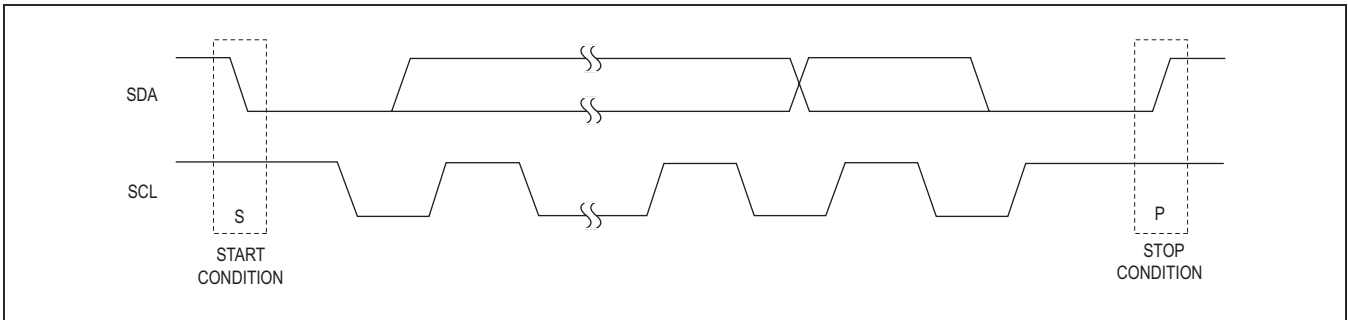

Figure 4. START and STOP Conditions
The IC operates as a slave device that sends and receives data through an I2C-compatible 2-wire interface. The interface uses a serial-data line (SDA) and a serial-clock line (SCL) to achieve bidirectional communication between master(s) and slave(s). A master (typically a microcontroller) initiates all data transfers to and from the IC and generates the SCL clock that synchronizes the data transfer. The SDA line operates as both an input and an open-drain output. A pullup resistor is required on SDA. The SCL line operates only as an input. A pullup resistor is required on SCL if there are multiple masters on the 2-wire interface, or if the master in a single-master system has an open-drain SCL output. Each transmission consists of a START (S) condition (Figure 4) sent by a master, followed by the MAX14592 7-bit slave address plus  $R/\overline{W}$  bit, a register address byte, one or more data bytes, and finally a STOP (P) condition.
Both SCL and SDA remain high when the interface is not busy. A master signals the beginning of a transmission with a START condition by transitioning SDA from high to low while SCL is high (Figure 4.) When the master has finished communicating with the slave, it issues a STOP